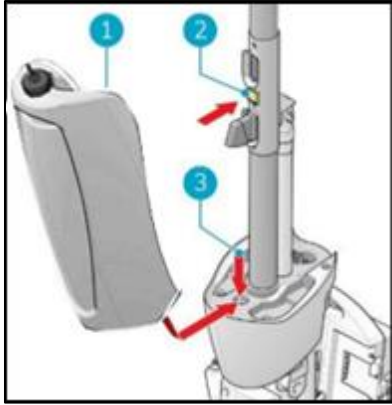

figure 35.
14. Put the bottom of the recovery tank (Figure 35, pos 1 and pos 3) on the front of the i-mop® XXL
15. Push the top of the tank into place until you hear a "click" sound, the magnet (Figure 35, pos 2) will lock the recovery tank into place.